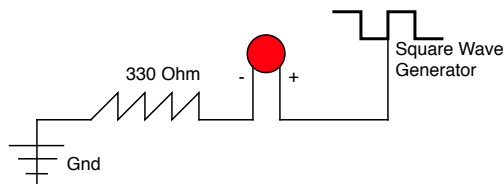

Figure 2: Circuit 2: Square Wave Generator
6. For one of the two LED circuits, we will change the input from +5 to the function generator as shown in Figure 2. Locate the function generator on the left side of your breadboard. Set the dial to a square